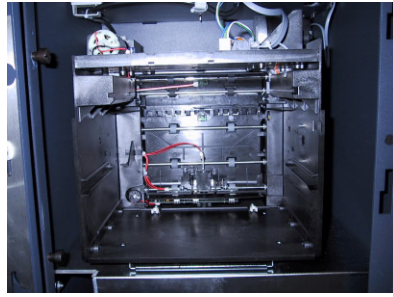

Figure 7. Dispenser on swivel mount, in cassette service position.
6. Refer to Figure 7. Place the dispensing mechanism on the turntable in the cassette service position (with the opening for the currency and reject cassettes facing to the front as you look into the security cabinet).